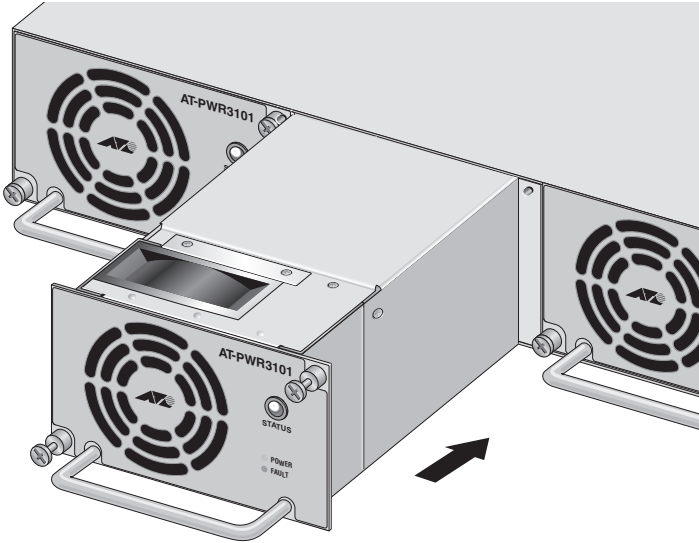

Figure 26. Installing the AT-PWR3101 Module
7. Slide the module into the expansion slot in the AT-RPS3104 system (see Figure 26).